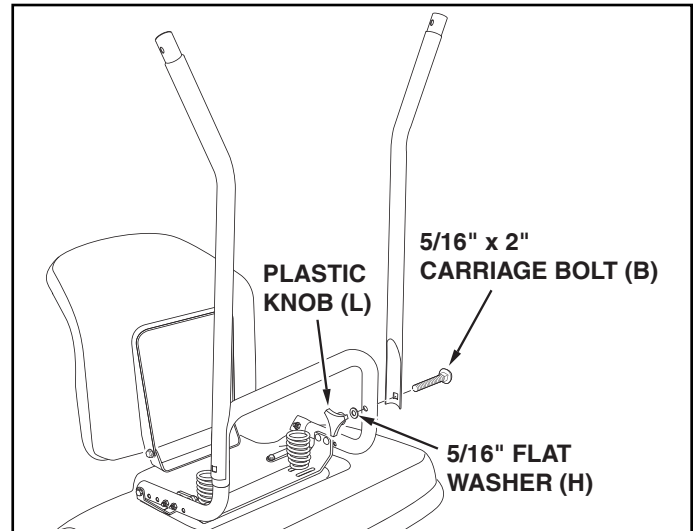

FIGURE 9
STEP 8: (SEE FIGURE 9)
- Assemble the upright tubes to the base assembly using a 5/16-18 x 2" carriage bolt (B), 5/16" flat washer (H) and plastic knob (L) for each tube.